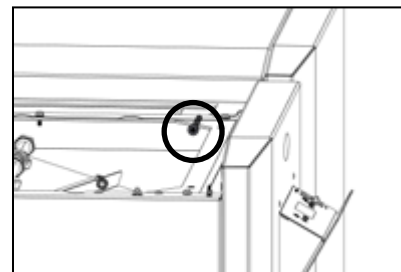

Figure 10-11: Location of 10mm cap bolt
- From inside the boiler casing; fit the 10mm cap bolt through the side of the boiler and spacer channel and into the fixing in the top front left of the side pellet store. Leave finger tight at this stage. Refer to Figure 10-11.